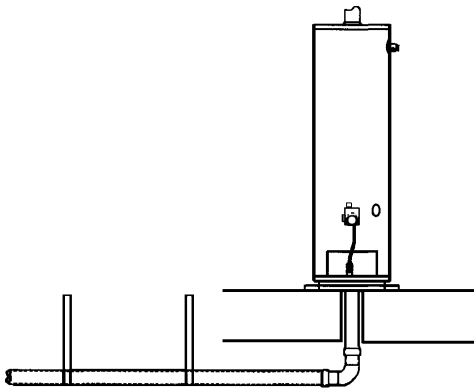

FIGURE 21.
5. Vertical and horizontal runs must be securely supported at 3 1/2 foot (106.68 cm) intervals, see Figure 21.